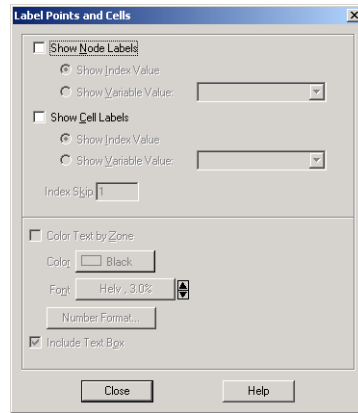

Figure 7-12. The Label Points and Cells dialog.
1. From the Plot menu, choose Label Points and Cells... The Label Points and Cells dialog appears, as shown in Figure 7-12.